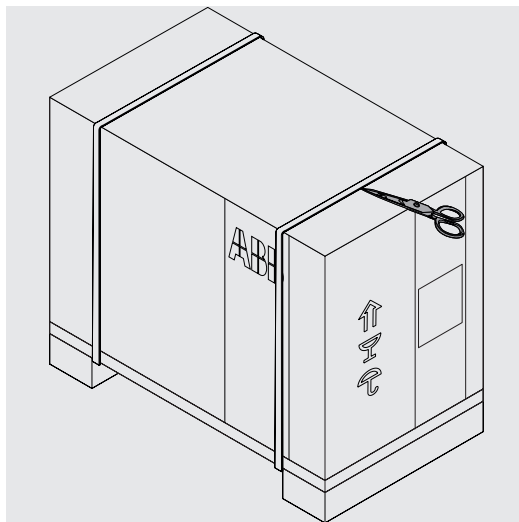
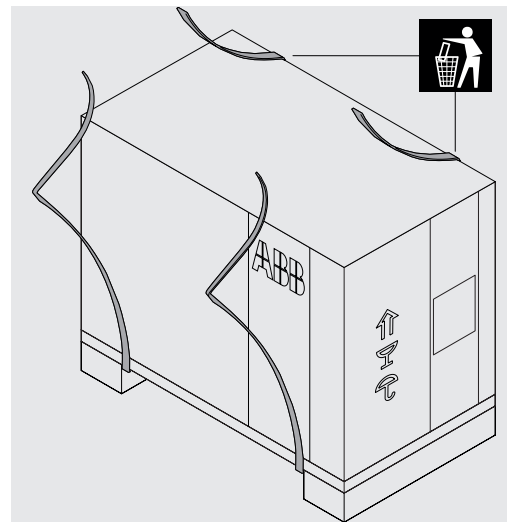

Figure 7
Figure 8
1. Cut the bands that wrap the packing box. See Figure 7 and Figure 8.